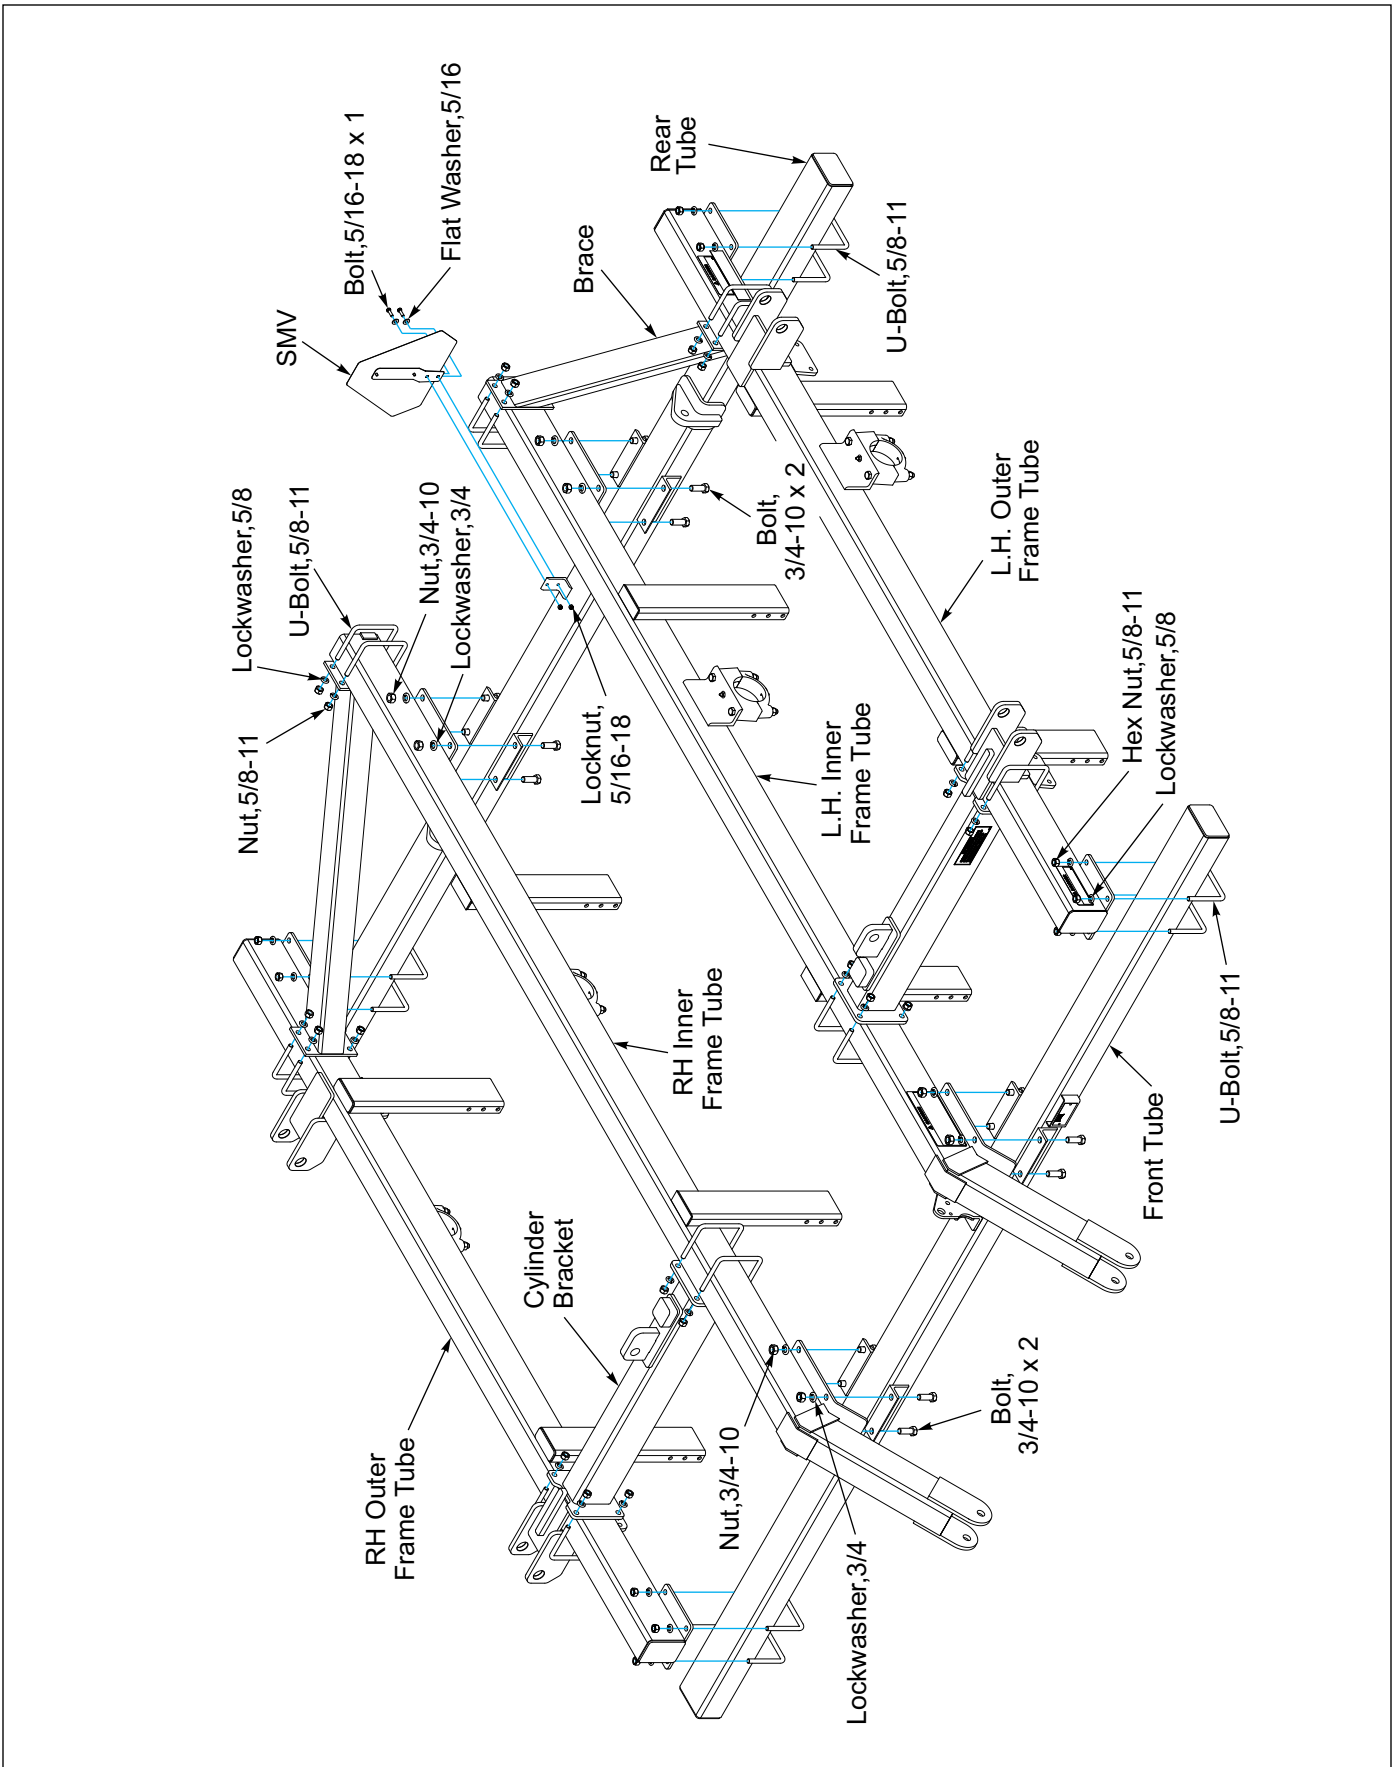

Figure 2-1: Frame
2. Position Inner Frame Tubes. Fasten Inner Frame Tubes to Front and Rear Tubes with 3/4-10 x 2 Bolts, Lock Washers and Nuts. Ensure that the Inner Frame Tubes are square with the Front and Rear Frame Tubes. **See Figure 2-1.**
3. Position Outer Frame Tubes on the Front and Rear Frame Tubes. Secure with 5/8-11 U-bolts, Lock Washers and Nuts. **See Figure 2-1.**